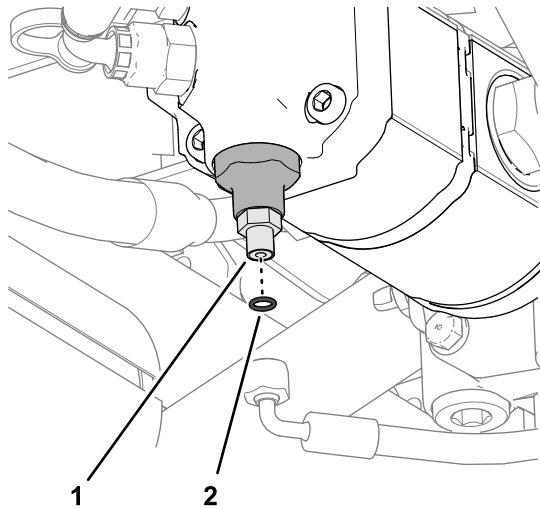

Figure 134
4. Remove the O-ring in the face of the straight fitting at the end of the hydraulic pump (Figure 134).
5. Install a new O-ring 7.6/1.8 mm (0.301/0.070 inch) into the groove of the straight fitting (Figure 134).